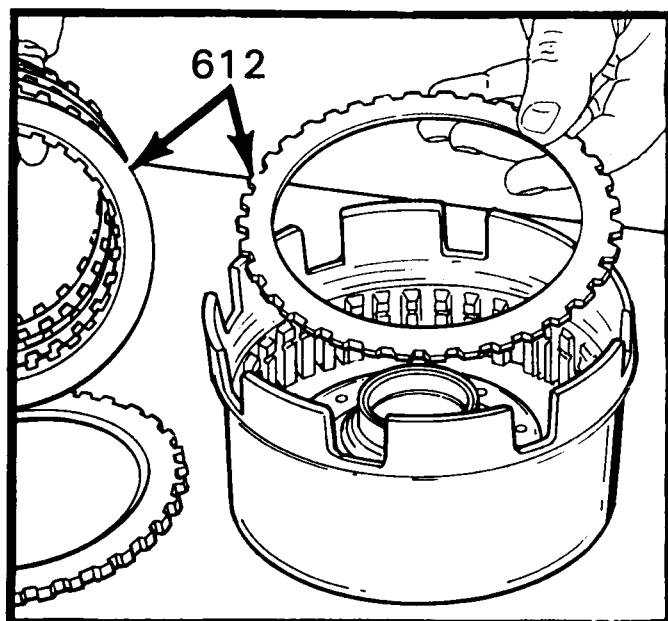

Figure 153
13. Install the reverse input clutch plates beginning with a flat steel plate, as shown in Figure 153.